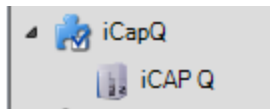

Figure 1: Expanded experiment configuration
- d) Expand the configuration to reveal the plugins (i.e. iCAP Q) contained in the configuration, see **Figure 1**.